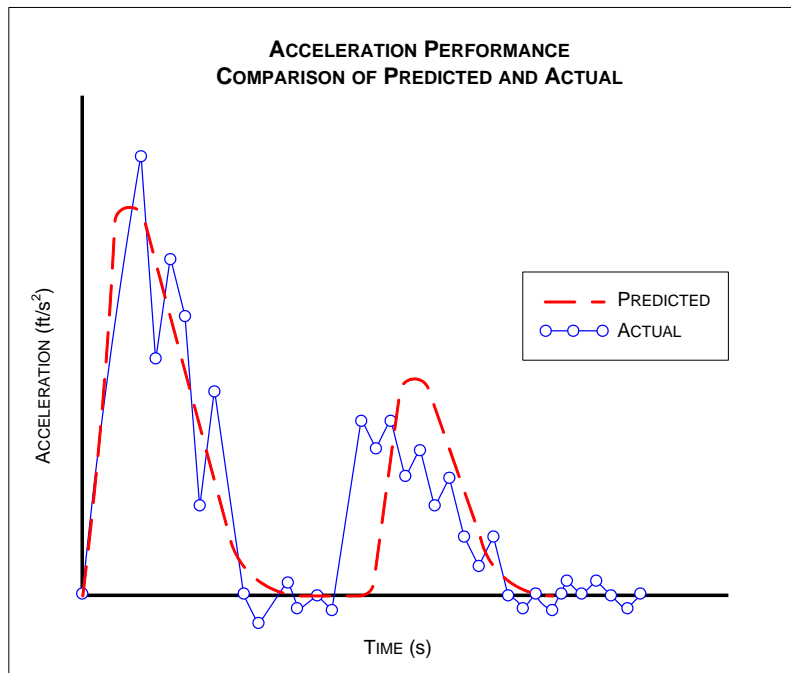

Figure 1. Example of Acceleration Performance Plot (for Boosted Dart competition, graphs of rotation are more likely)
- ~~Plot: "Acceleration Performance Comparison of Predicted and Actual" (Figure 1)~~ (optional plot – this request dates back to an earlier competition)